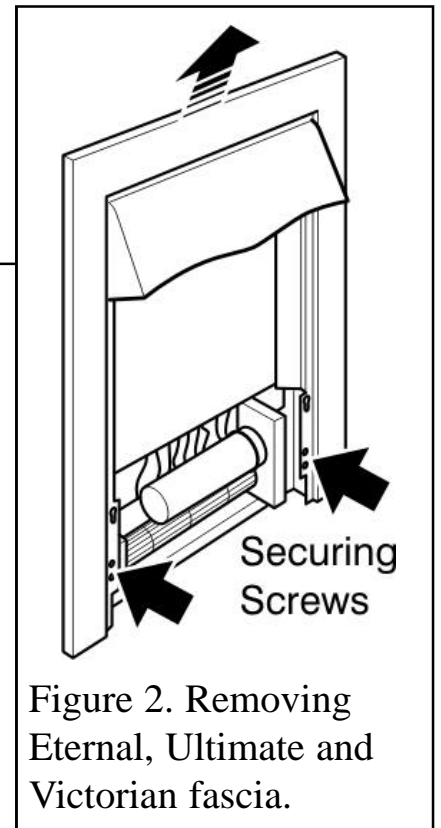

Figure 2. Removing Eternal, Ultimate and Victorian fascia.
1. Remove the two fascia securing screws (See figure 2). Remove the front fascia by
gently pulling the base of the fascia forward whilst lifting clear of the support brackets at the top of the heater (See figure 2).